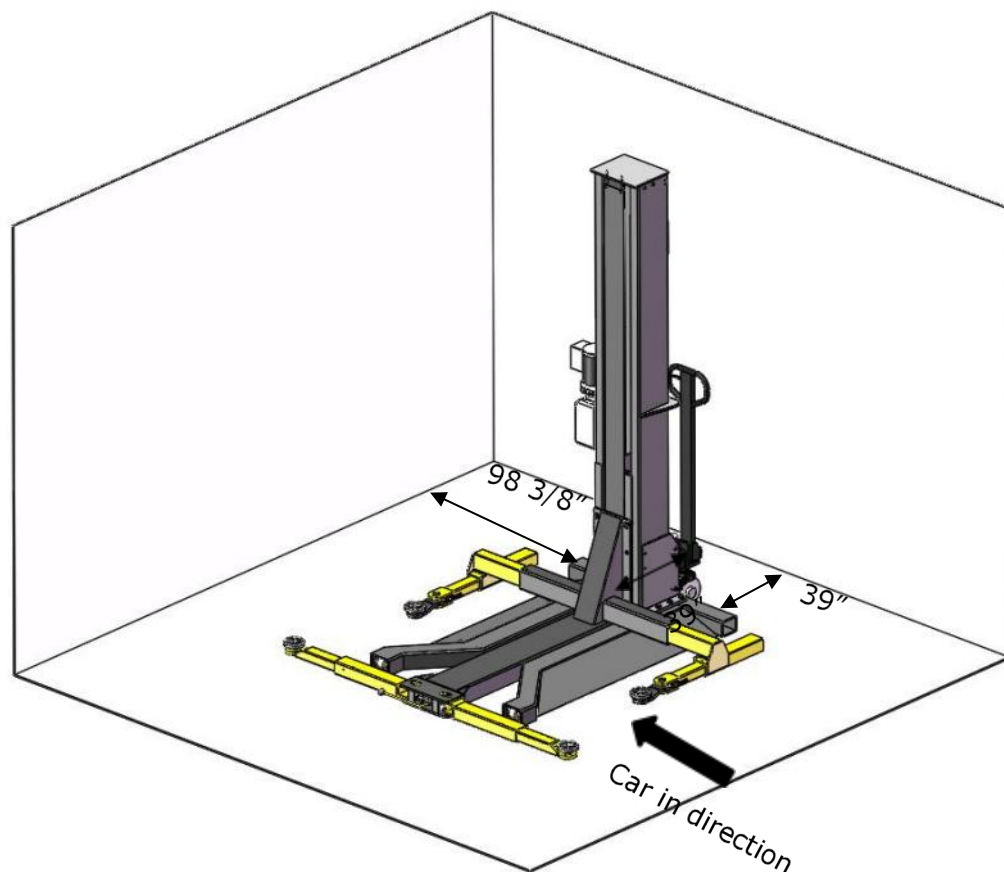

Fig.5
2. Installation space: Ensure there is enough space for the lift. Accurately measure the front, back, side and top mounting dimensions and refer to the below figure data(See Fig. 5).